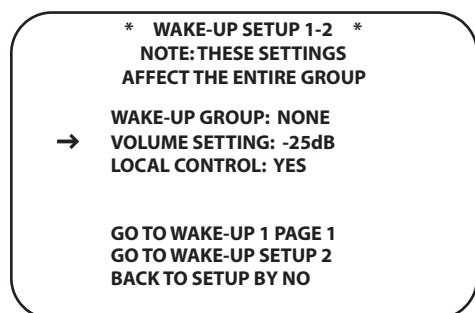

Figure 73.
3. To continue Setup, press the **▲/▼ Navigation Button** 16 to position the cursor next to **GO TO WAKE-UP 1 PAGE 2**. Press the **Set Button** 18. The **WAKE-UP SETUP 1-2** screen will appear (Figure 73).